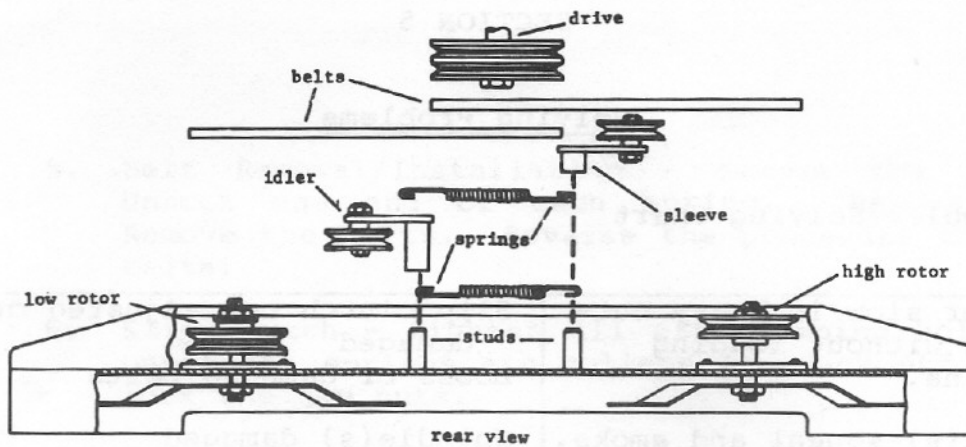

FIGURE 3
- 6.4 Set the belts as in Figures 3 and 4 (low belt first). This belt positioning is important for ease of assembly.
- 6.5 Hook the springs to the idler assembly from underneath. See Figures 3 and 5 and deck illustration.